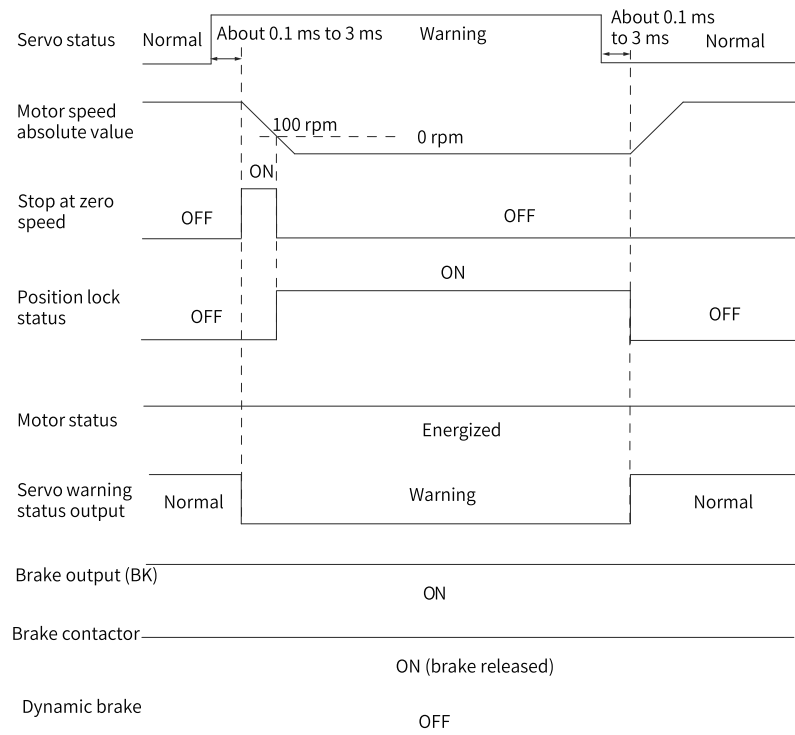

Figure 9-12 Sequence for alarms that cause stop
- When a No. 3 alarm occurs on the servo drive, such as E900.0 (DI emergency braking), E950.0 (Positive limit switch alarm), and E952.0 (Negative limit switch alarm), the servo drive stops according to “Figure 9-12 Sequence for alarms that cause stop” on page 174.